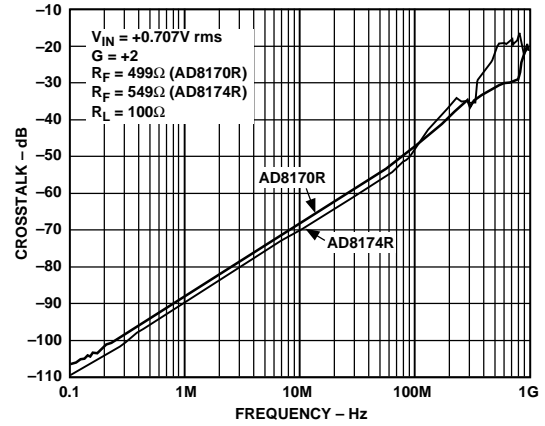

Figure 13. All-Hostile Crosstalk vs. Frequency
- Select input(s) that is (are) not being driven (i.e., if SELECT is Logic 1, activated input is IN1; in AD8174, if A0 = Logic 0, A1 = Logic 1, activated input is IN2). Drive all other inputs with $V_{IN} = 0.707$ V rms, and monitor output at $f = 5$ MHz and 30 MHz; $R_L = 100$ Ω (see Figure 13).